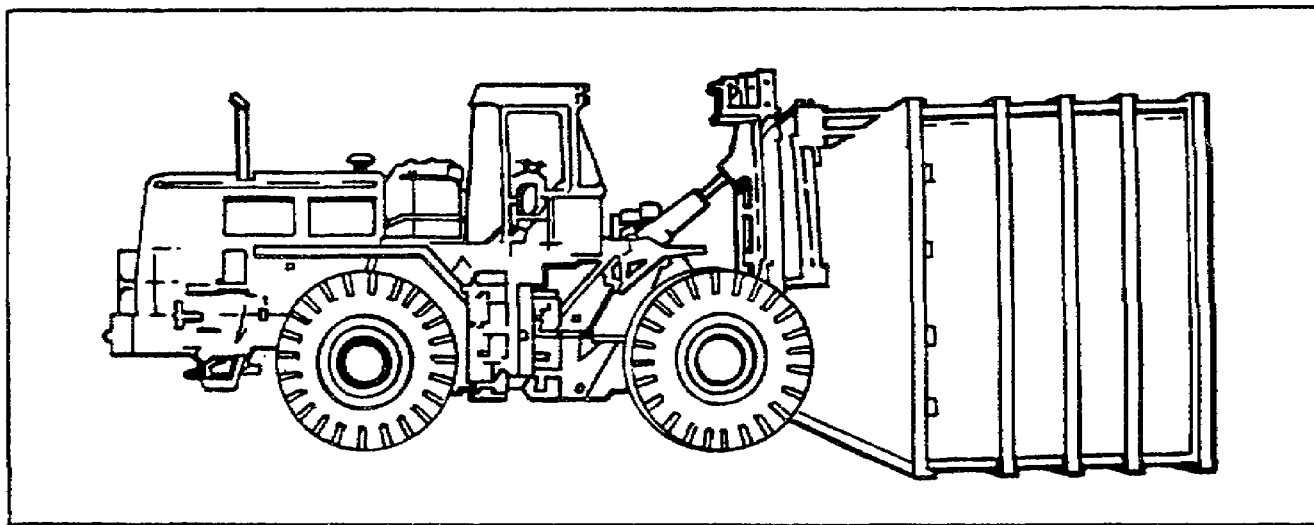

Figure 1-11. 50,000-pound Rough Terrain Container Handler.
**50,000-pound Rough Terrain Container Handler.** Where containerized shipments are common, a new type of MHE is being used on an experimental basis. It is the 50,000-pound rough terrain container handler (RTCH) (figure 1-11); which resembles a large version of a rough terrain forklift. It is equipped with a special holder assembly, for handling MILVAN containers filled with ammunition. The RTCH is specially designed to handle containers 8 feet wide, up to 40 feet long, and with weights of up to 50,000 pounds. Since the RTCH alone weighs approximately 100,000 pounds, field units have found operating it on soft earth surfaces difficult.